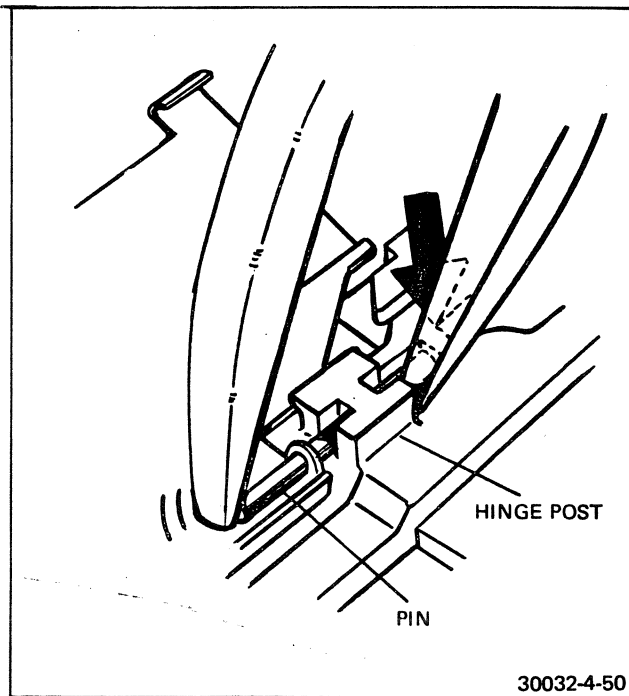

FIGURE 4-50 USING PLIERS TO INSERT LIGHT BAFFLE HINGE PIN
4. Install baffle with spring on right hand pin. Use pliers with one jaw on the outside of the hinge post and squeeze the pin outwards until it reaches the stop (Figure 4-50). Check the spring action of the baffle. It must be completely free — no evidence of binding is tolerable.